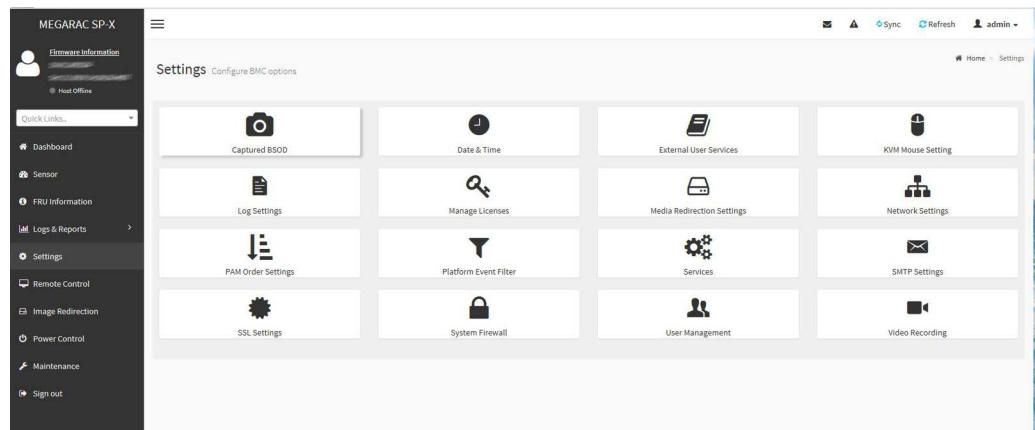

Figure 7.14 Settings menu
8. The **Settings** menu enables the user to define network settings, virtual media, etc. Figure 7.14 displays the list of available configuration options.